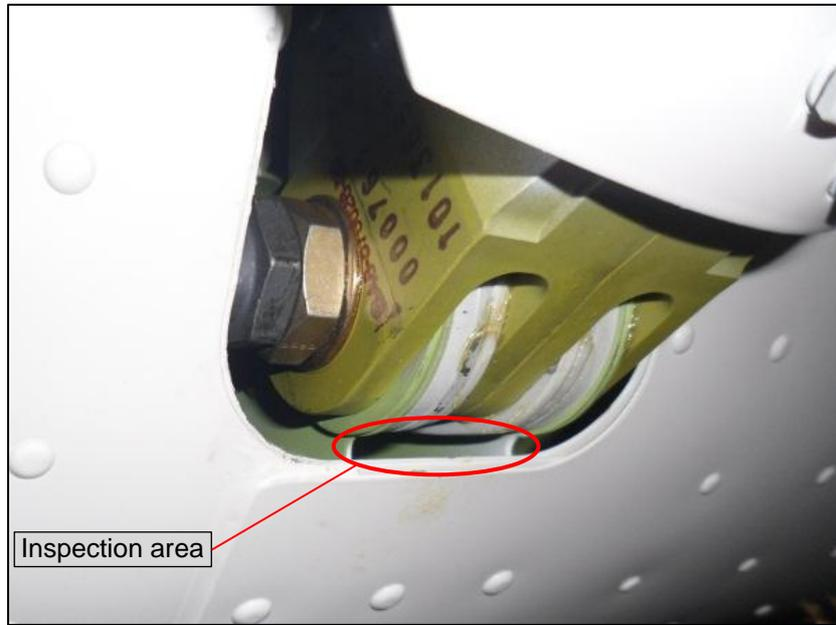

Figure 1: Inspection Region on Strut Pickup Ribs
3. Inspect the strut pick-up ribs at the point just below the connection between the wing strut and the fuselage. Refer to Figure 1 below